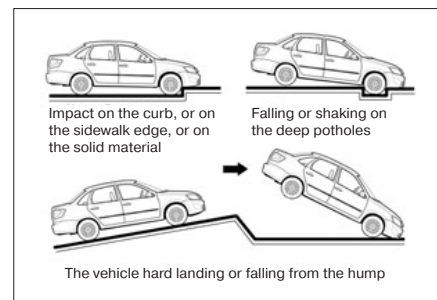

Fig. 15b. Examples of the ABS actuating situations
Examples for the ABS actuating situations (Fig. 15b):
- in case of the ample force impact affecting the vehicle in front, some examples are shown in Figure 15b.